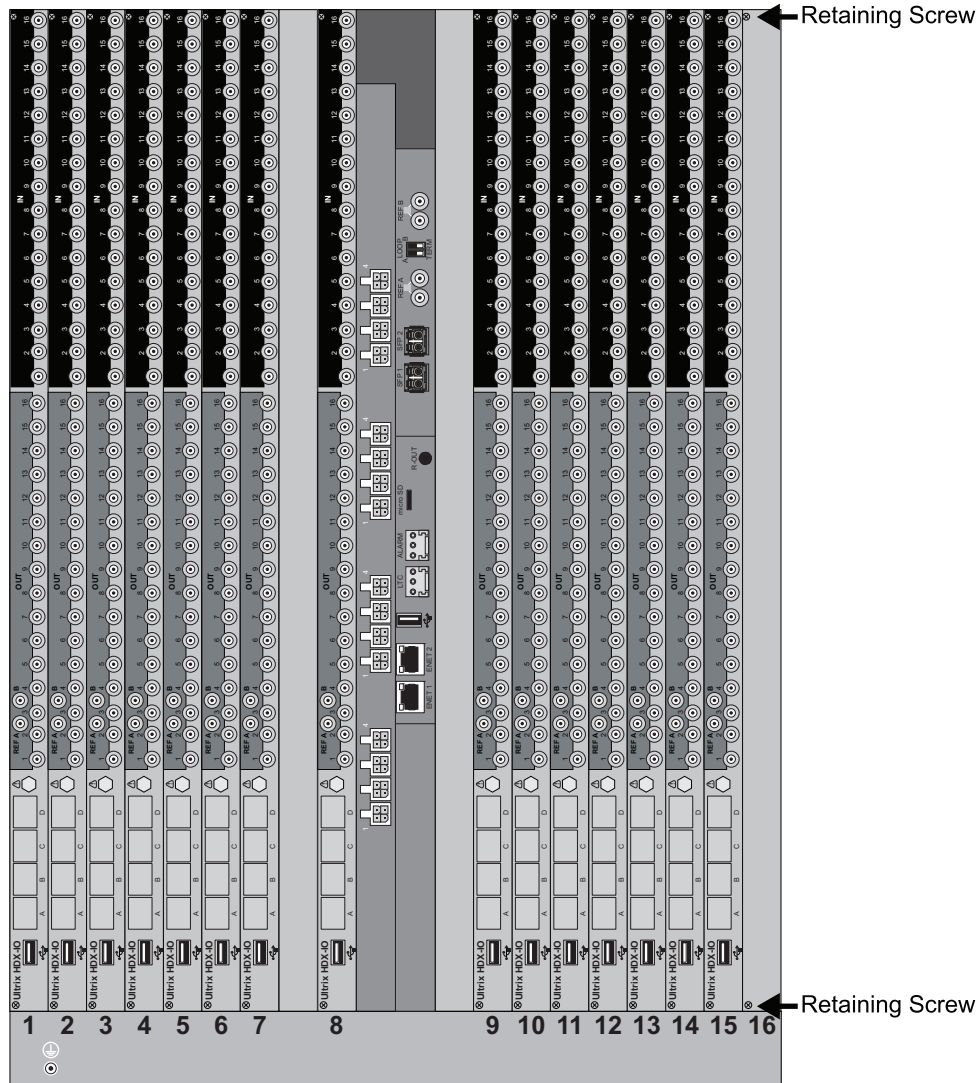

Figure 7 ULTRIX-FR12 Rear Panel — Retaining Screw Locations on a Blank Plate
2. Disengage the captive retaining screws on either end of the blank plate In **Figure 7**, the user is removing the blank plate in slot 16.